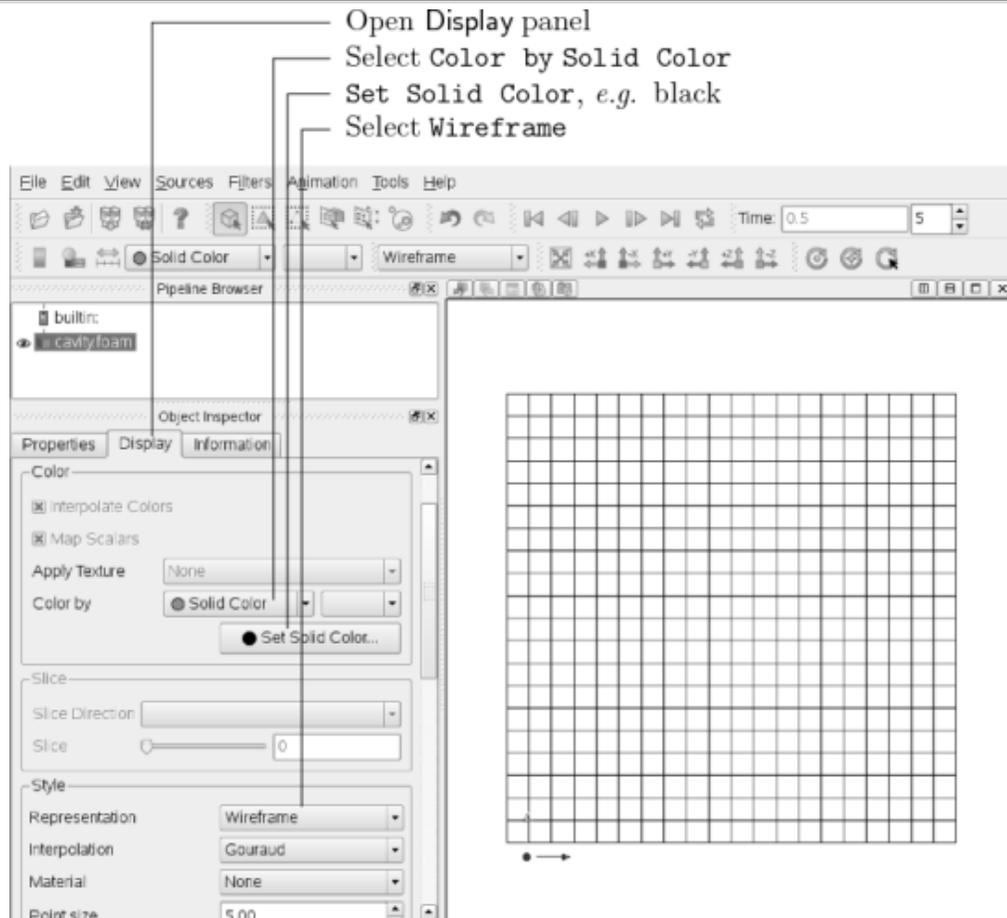

Figure 2.3: Viewing the mesh in *paraFoam*.
The user should then open the *Display* panel that controls the visual representation of the selected module. Within the *Display* panel the user should do the following as shown in Figure 2.3: (1) set Color By Solid Color; (2) click *Set Ambient Color* and select an appropriate colour e.g. black (for a white background); (3) in the *Style* panel, select *Wireframe* from the Representation menu. The background colour can be set by selecting *View Settings...* from *Edit* in the top menu panel.